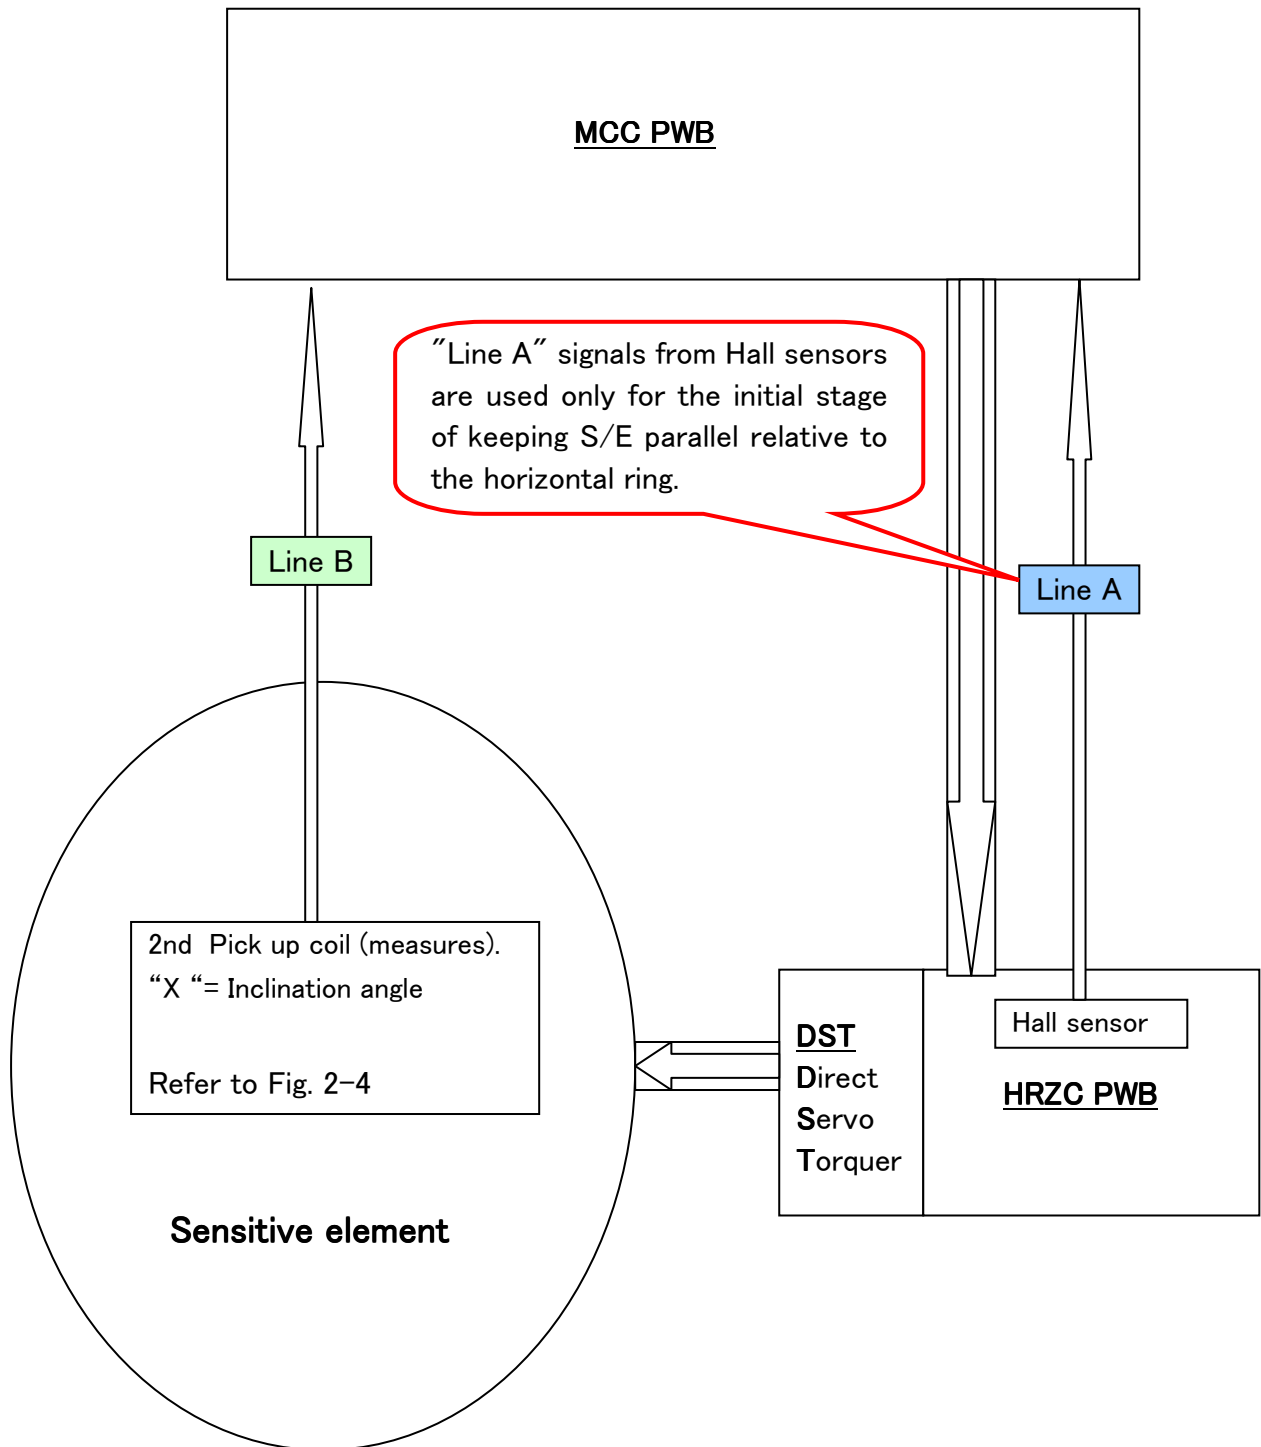

Fig. 2-2 Sensitive element control flow
* Refer to Fig. 2-2 thru Fig. 2-4.
- MCC PWB measures the relative angle between the S/E and the horizontal ring by using the hall sensors of HRZC PWB. ⇒ “Line A” in Fig. 2-2.
- In addition to the measurement by “Line A”, MCC PWB measures the rotor position in S/E by using the pick up coil (X) of S/E. ⇒ “Line B” in Fig. 2-2.